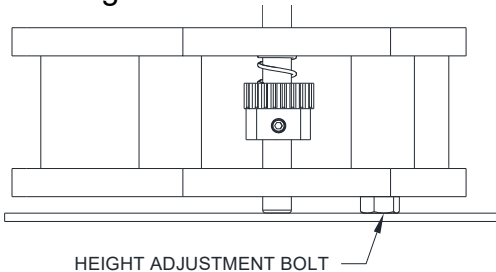

Fig. 10
26. With the lift lowered, arms extended fully and foot pad in the lowest position, check clearance of the foot pad screw to ensure it does not make contact with the floor. Use the height adjustment bolt shown in **Fig. 10** to either raise or lower the bolster as necessary. If there is more then 3/8" of clearance on both screws with the bolt fully seated against the bottom of the bolster remove the bolt.